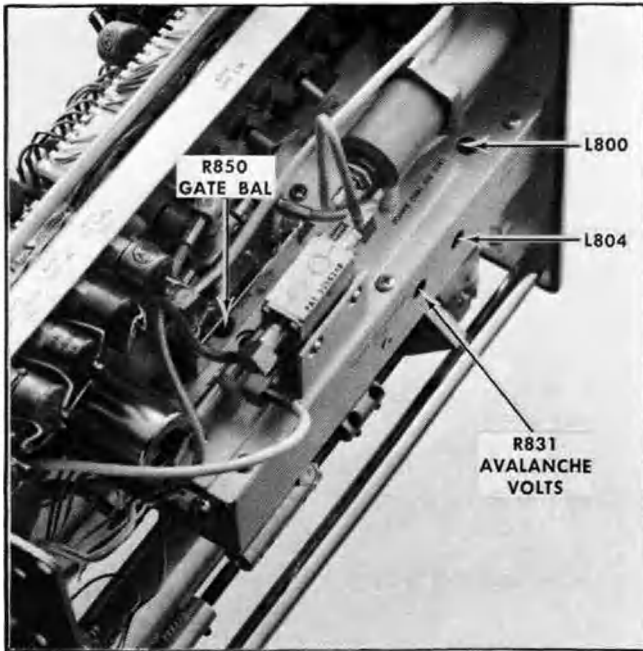

Fig. 5-15. Phase lock circuit adjustments.
- ADJUST**—Insert a tuning tool (Tektronix Part No. 003-0310-00) into the access hole in the side of the phase lock assembly (Fig. 5-15) and adjust L804 so the oscillator starts
i. ADJUST—L800 (Fig. 5-15) until the oscillator frequency shift, over the range of the INT REF FREQ control, is 1.2 kHz (2.4 cm).
(1) Apply the 1 MHz markers from the Type 1L40 to Channel 1 Input of a Dual-Trace Amplifier Plug-In Unit (Type 1A1) and 1  $\mu\text{s}$  markers from the Time-Mark Generator (Type 184) through a 10X attenuator and a 50  $\Omega$  termination to Channel 2 Input of the Dual Trace Amplifier.
(2) Adjust the deflection sensitivity for both channels of the Dual-Trace Amplifier to equalize the deflection amplitude, then set the Mode switch to Add.
(3) Set the test oscilloscope Time/Cm to 1 ms and adjust the triggering controls for a triggered display.
(4) Turn the Type 1L40 INT REF FREQ control to the initial on position (ccw) and check the beat frequency display for no more than 10 cycles in 10 cm (reference frequency  $1 \text{ MHz} \pm 1 \text{ kHz}$ ).
d. (This step is a Calibration adjustment. Proceed to part (e) for Performance Check procedure.) **ADJUST**—the Avalanche Volts R831 (Fig. 5-15) from a fully ccw position clock-